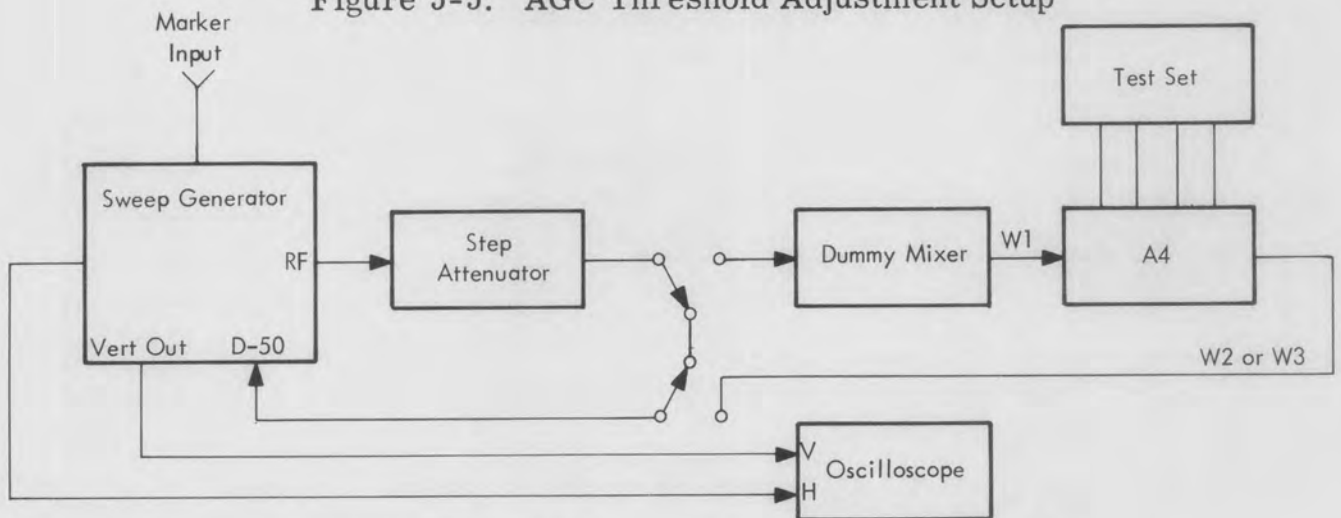

Figure 5-6. IF Alignment, Gain and Bandwidth
- (1) Connect test equipment as shown in figure 5-6. Set AGC control to zero.